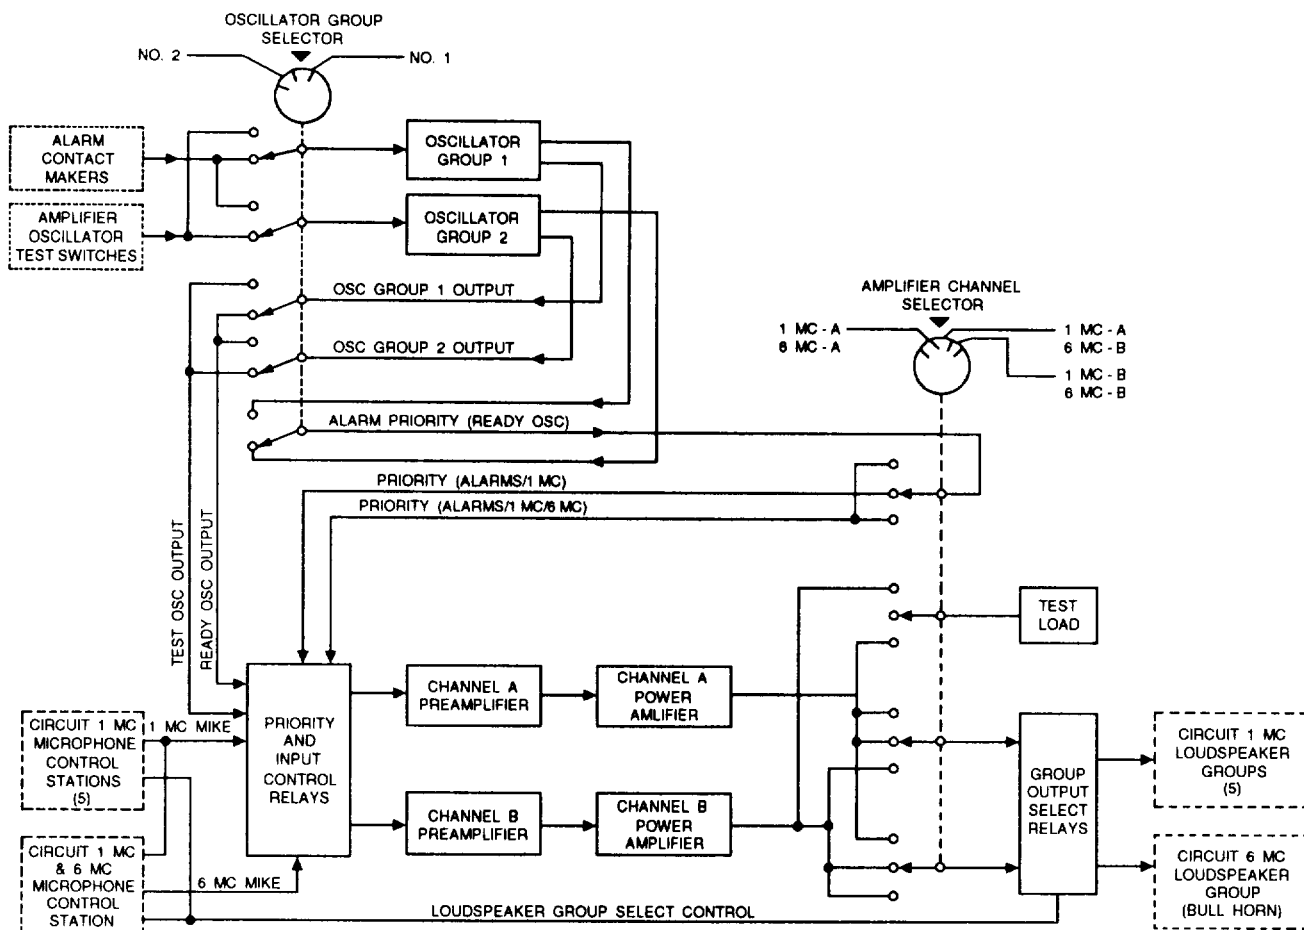

Figure 7-16.—Simplified system switching diagram.
**AMPLIFIER CHANNEL SELECTOR SWITCH.**— Three choices of channel operation are available in this system: (1) 1MC-A/6MC-B, (2) 1MC-A/6MC-A, and (3) 1MC-B/6MC-B. Selection is accomplished by operation of the AMPLIFIER CHANNEL SELECTOR switch. Channel A is normally used for circuit 1MC operation, and channel B is normally used for circuit 6MC operation. Should one channel fail during operation, the switch can be positioned to the operational channel, thus putting both circuit 1MC and circuit 6MC on the same channel. Under this condition, however, circuit 1MC has priority over circuit 6MC. Figure 7-16 is a simplified system switching diagram showing the AMPLIFIER CHANNEL SELECTOR switch in the 1MC-A/6MC-B position.